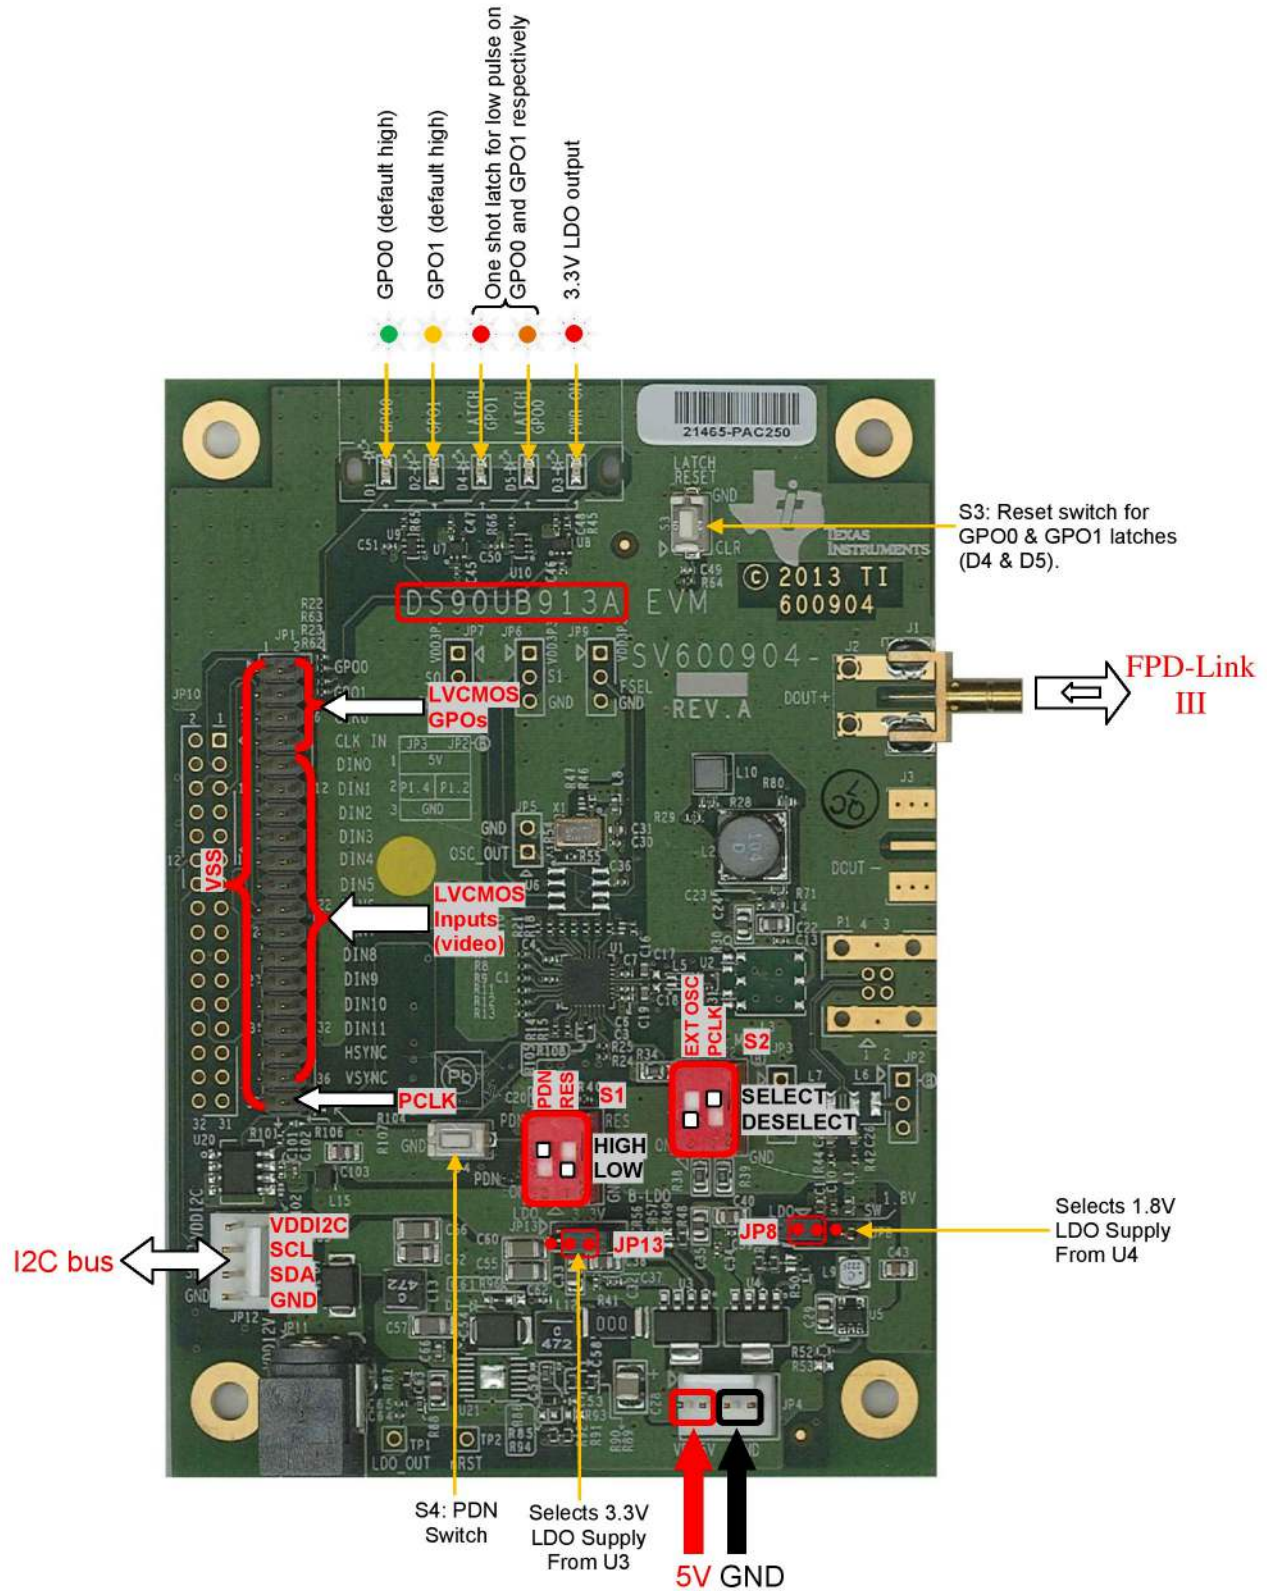
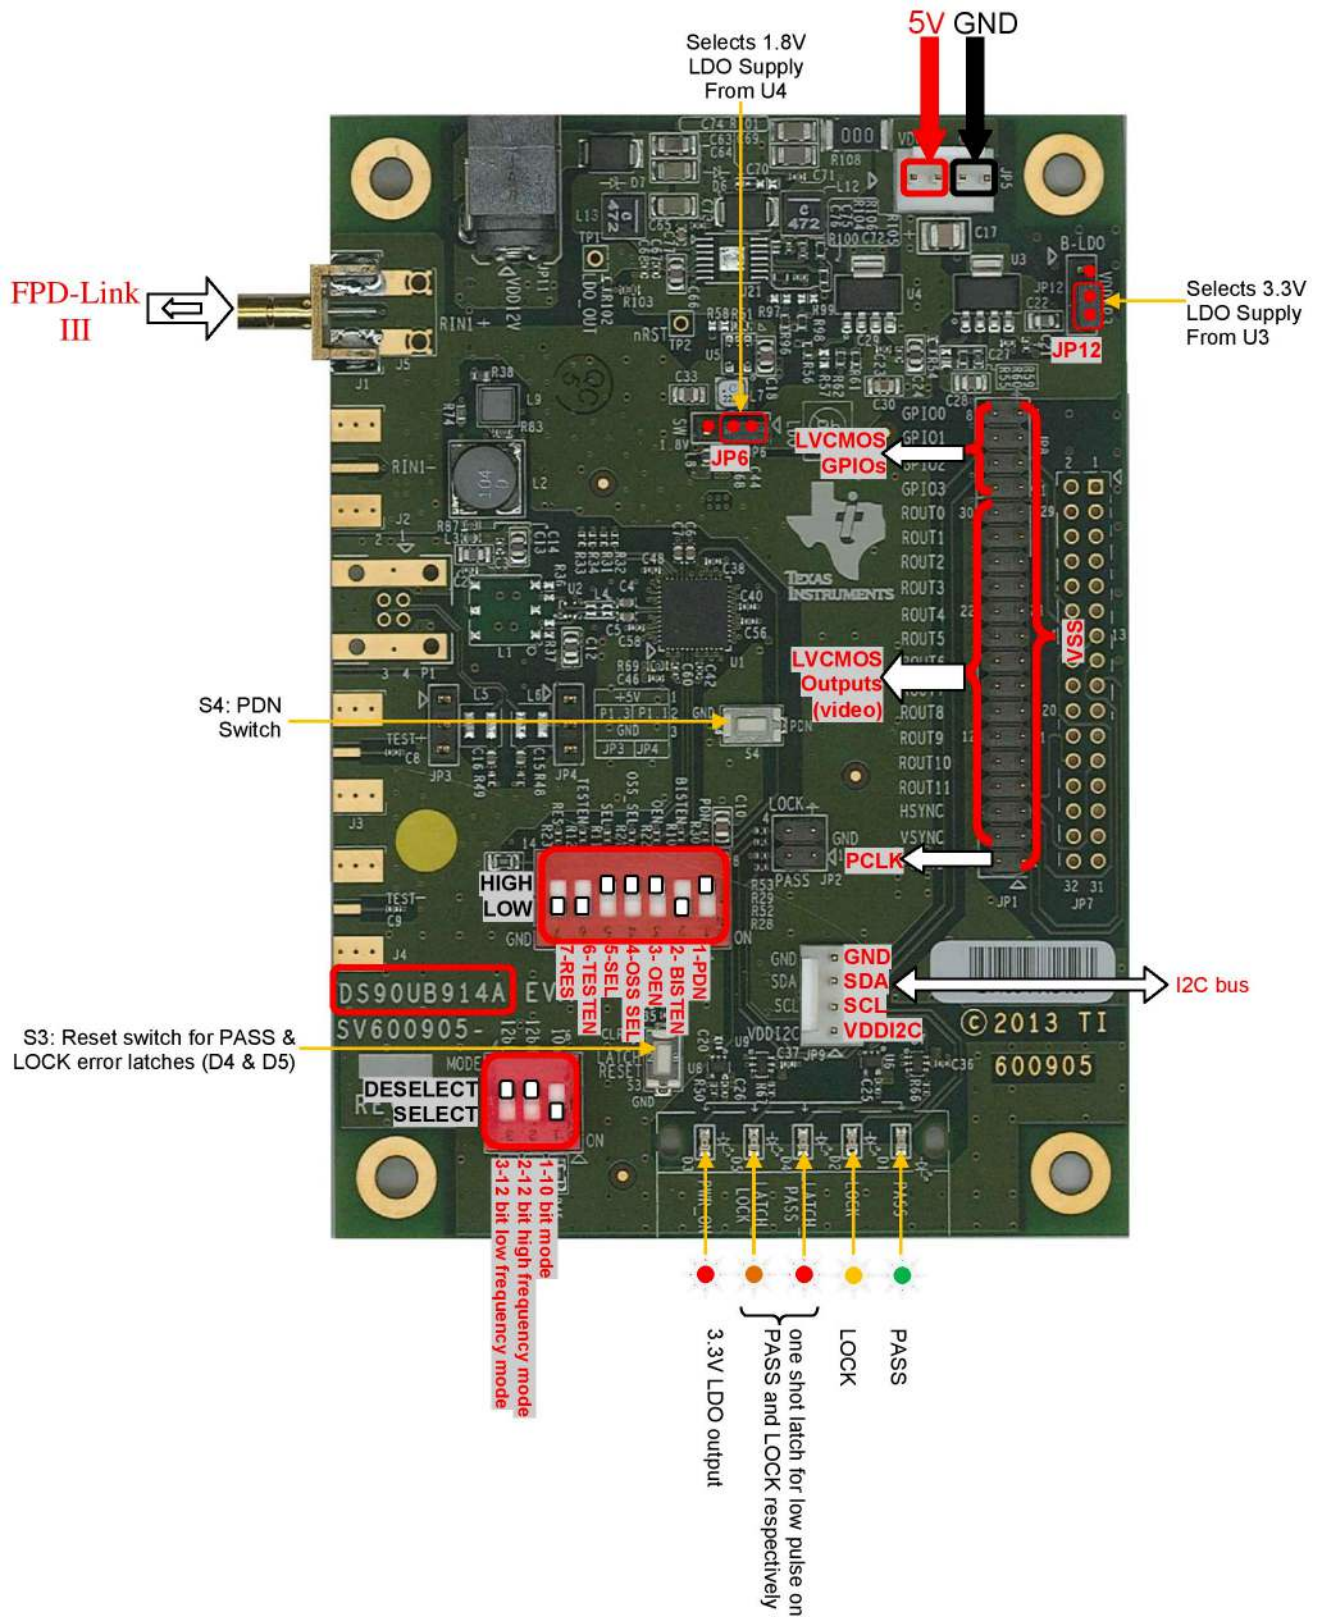

Figure 1-2. DS90UB913A-CXEVm REV A Serializer Board (Default Settings)
Figure 1-3. DS90UB914-CXEVM REV A Deserializer Board (Default Settings)
Make sure S1, S2, JP8, JP13 of Serializer board and S1, S2, JP6, JP12 of Deserializer board are configured as shown in Figure 1-2 and Figure 1-3.
6. Go back to Figure 1-2 & Figure 1-3 to double check factory settings.
S1, S2, JP8 and JP13 of Serializer board are factory configured as shown in Figure 1-2 for plug and play operation.
- On JP8 and JP13, a 2-pin jumper is factory placed as shown in Figure 1-2. This selects power from U4 for 1.8V VDD and from U3 for 3.3V VDDIO respectively.
S1, S2, JP6, JP12 of Deserializer board are factory configured as shown in Figure 1-3 for plug and play operation.
- On JP6 and JP12, a 2-pin jumper is factory placed as shown in Figure 1-3. This selects power from U4 and U3 LDOs for 1.8V VDD and 3.3V VDDIO respectively.